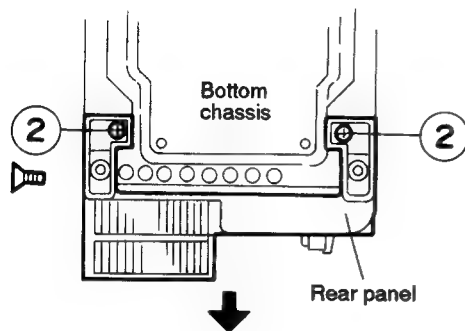

Fig. 5-2
2. After turning the body upside down, remove the two screws ② retaining the rear panel (See Fig. 5-2).